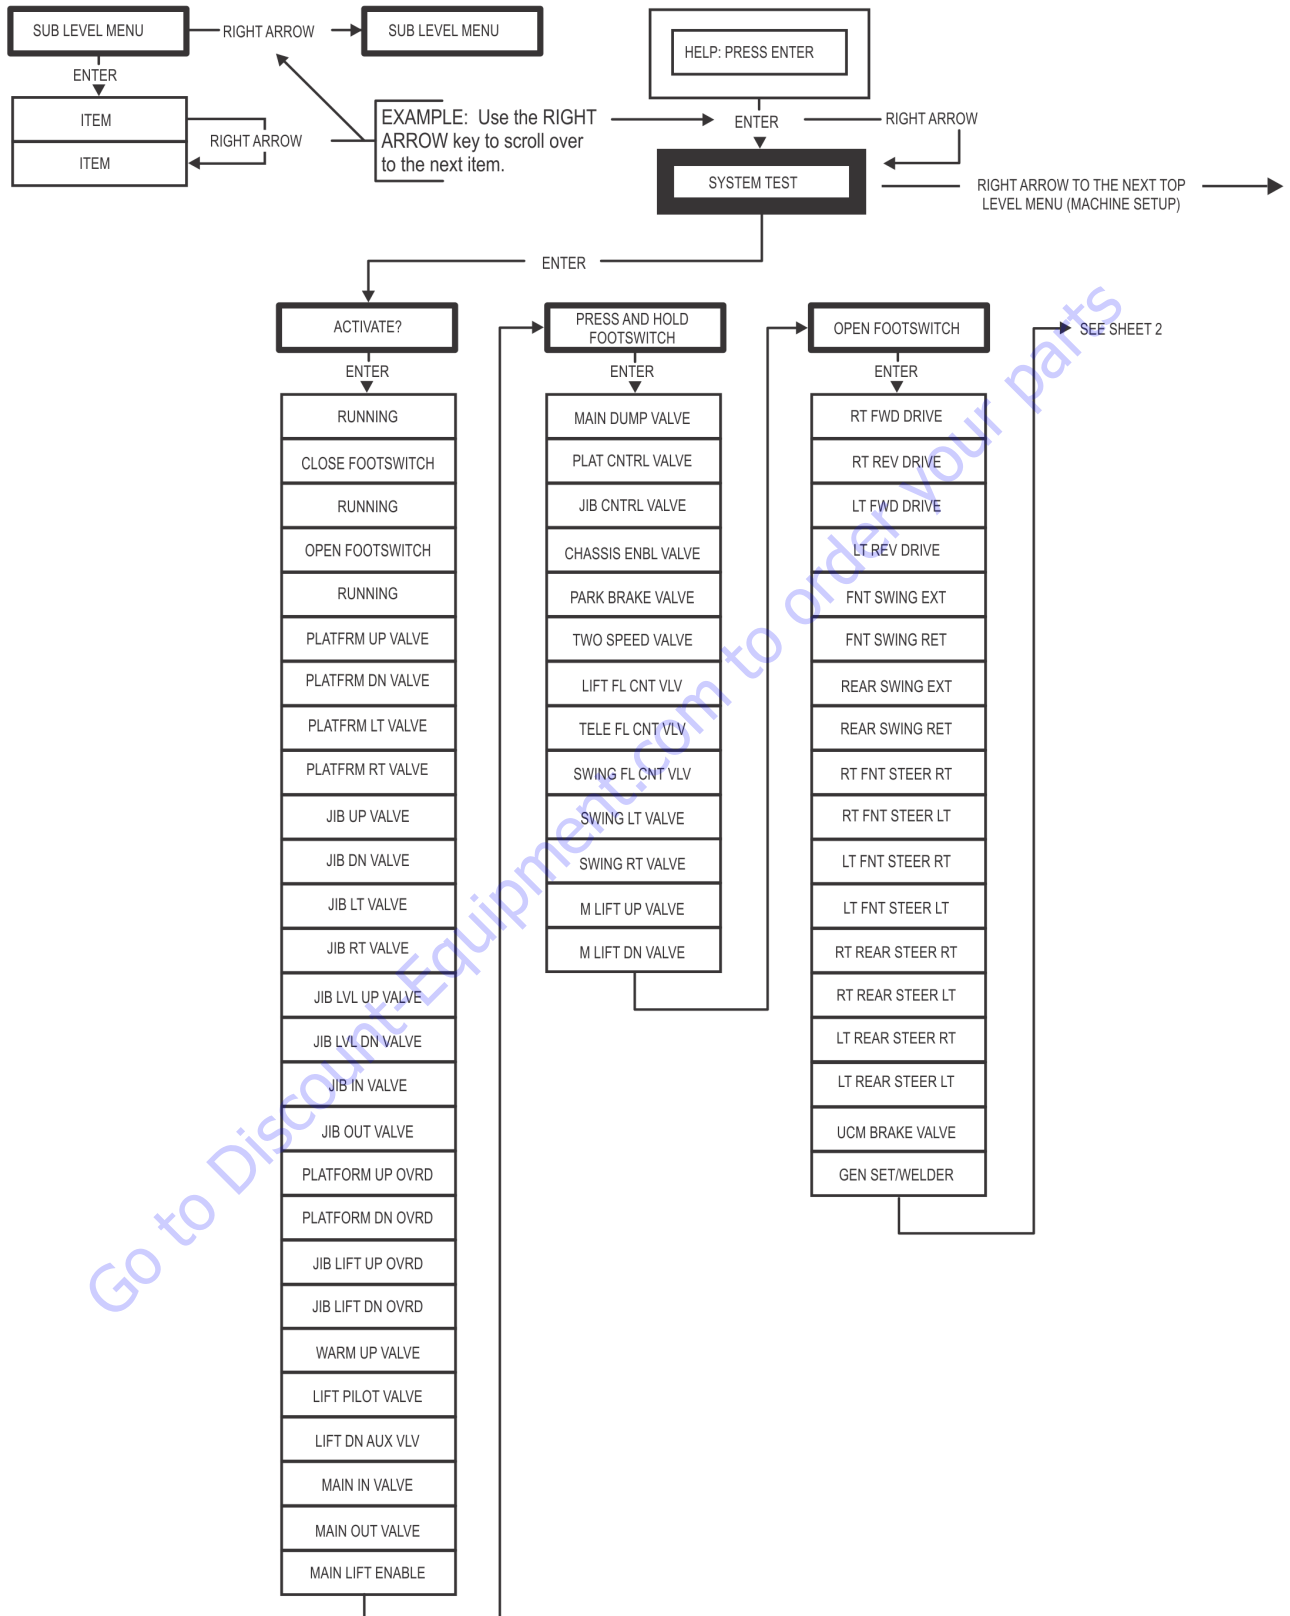
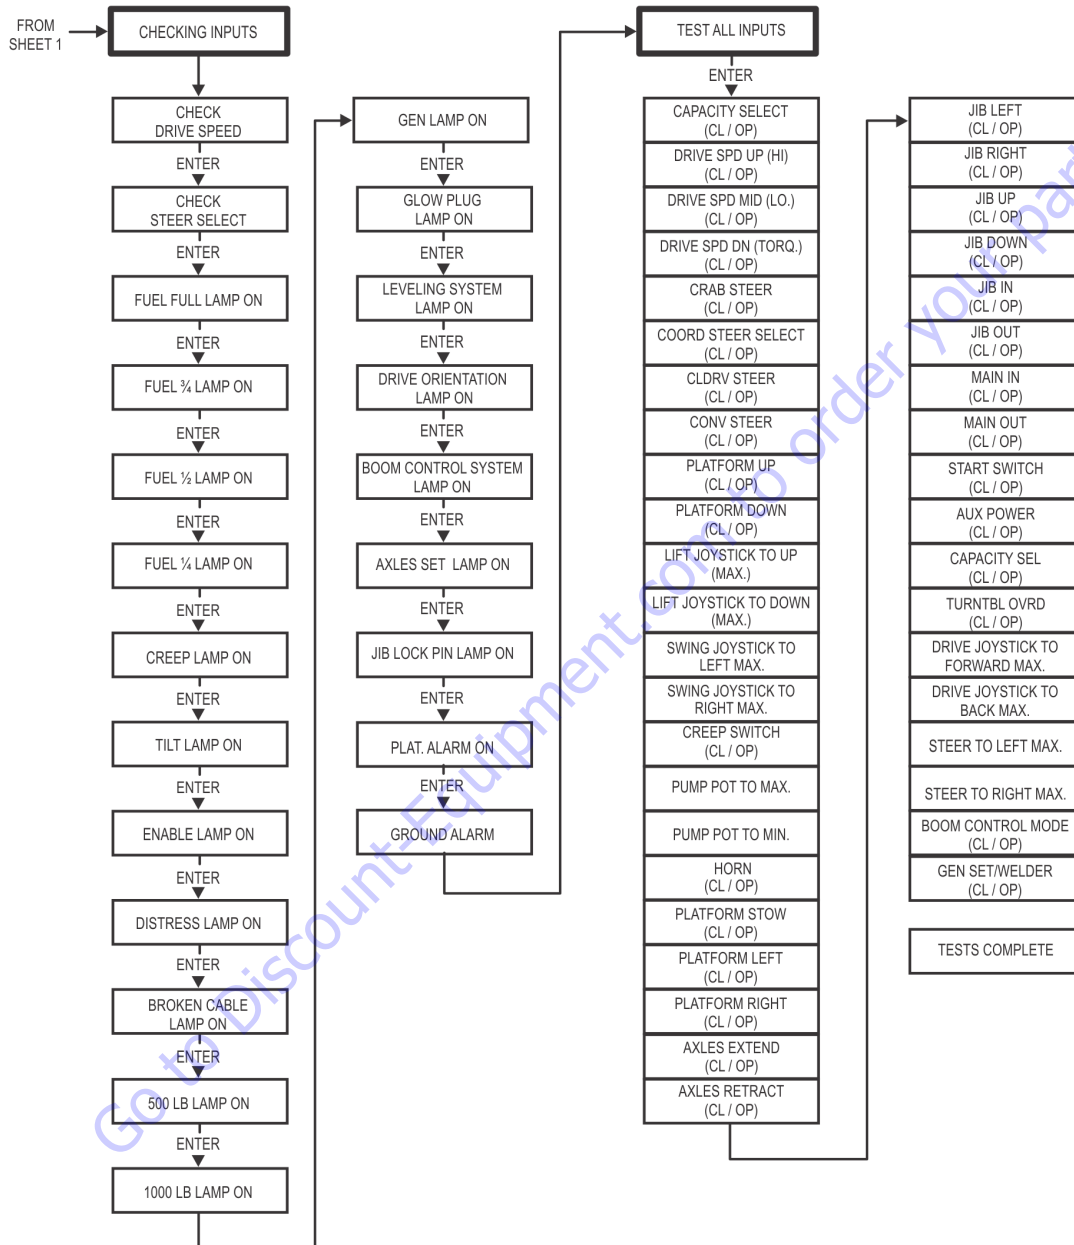

Figure 6-29. System Test Flow Chart - Platform Tests - Sheet 1 of 2
Figure 6-30. System Test Flow Chart - Platform Tests - Sheet 2 of 2
8. Follow the flow path in Figure 6-29, System Test Flow Chart - Platform Tests - Sheet 1 of 2 and Figure 6-30, System Test Flow Chart - Platform Tests - Sheet 2 of 2 and go through the component tests. Hit the ESC key during any part of the test to return to the main menu without completing all tests or wait until all tests are complete. During the TEST ALL INPUTS sequence, the analyzer allows control switches to be operated and shows if they are closed (CL) or open (OP).